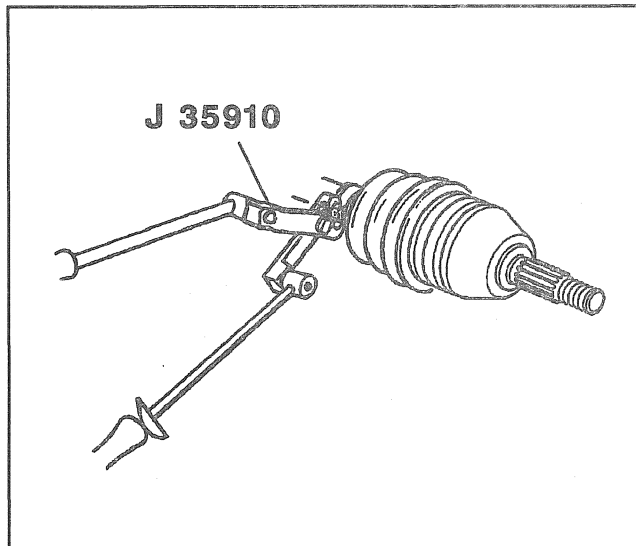

Figure 54—Removing C/V Joint
Remove or Disconnect (Figures 54)
2. Small seal-retaining clamp on axle shaft using J 35910 (Figure 54).